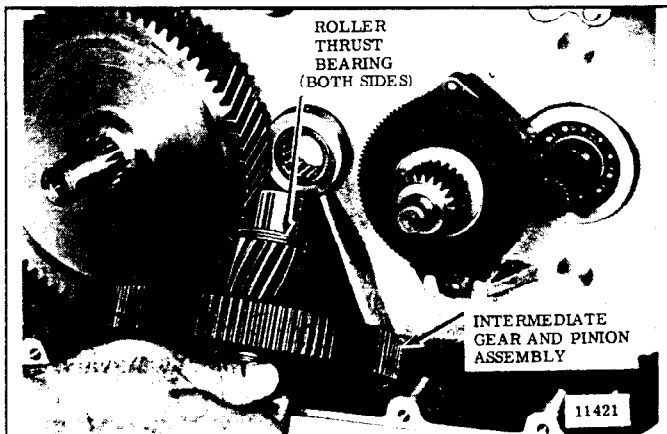
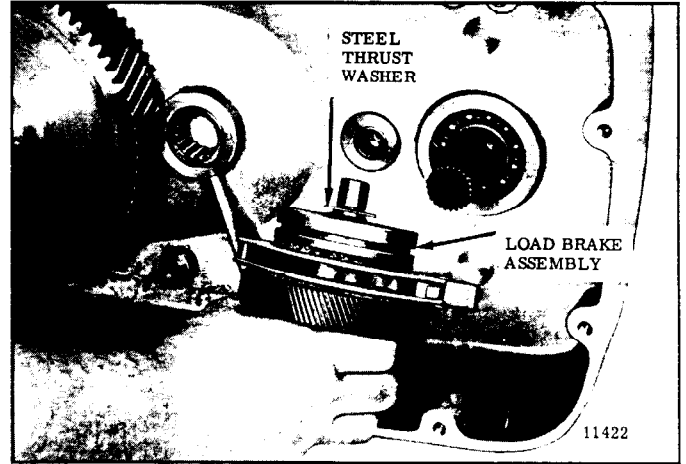

Figure 5-4. Removing Intermediate Gear and Pinion Assembly.
Figure 5-5. Removed Load Brake Assembly.
- b. To inspect gearing, pull out intermediate gear and pinion assembly and roller thrust bearings (Figure 5-4), and load brake assembly (Figure 5-5). Do not remove drum gear unless visual inspection indicates replacement is necessary.
h. Install gearing and load brake assembly in gearcase in reverse order of disassembly. Be certain roller thrust bearings are installed at both ends of intermediate gear shaft as shown in Figure 5-4 and that thrust washers are properly installed at both ends of load brake shaft as noted below.
(1) A steel thrust washer with 5/8" I.D. must be installed on the brake flange end (end opposite pinion) of load brake as shown in Figure 5-5.
(2) A bronze thrust washer with a lug on one side goes on pinion end of load brake shaft and it must be installed so that its lug engages the special slot located on the spot face surrounding the load brake bearing bore inside gearcase cover. Use heavy grease to hold it in place on cover as cover is installed.